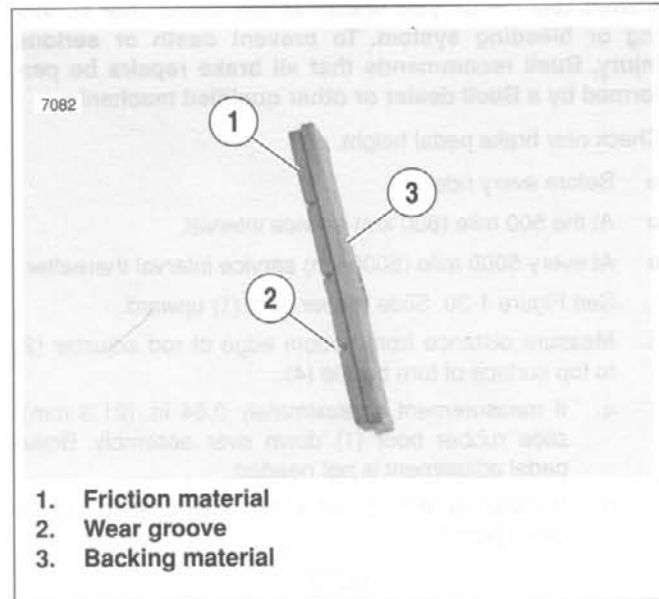

Figure 1-32. Brake Pad Thickness
See Figure 1-32. Inspect brake pads for damage or excessive wear. Replace both pads as a set if friction material (1) of either pad is worn to 0.04 in. (1.0 mm) or less. If this amount of wear occurs, wear grooves (2) will disappear from friction material surface.